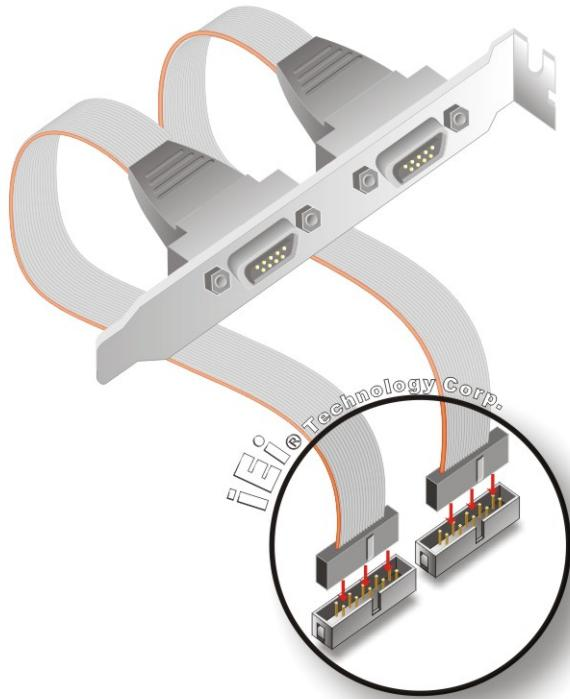

Figure 4-7: Dual RS-232 Cable Installation
Step 2: **Insert the cable connectors.** Insert one connector into each serial port box headers. See **Figure 4-7**. A key on the front of the cable connectors ensures the connector can only be installed in one direction.